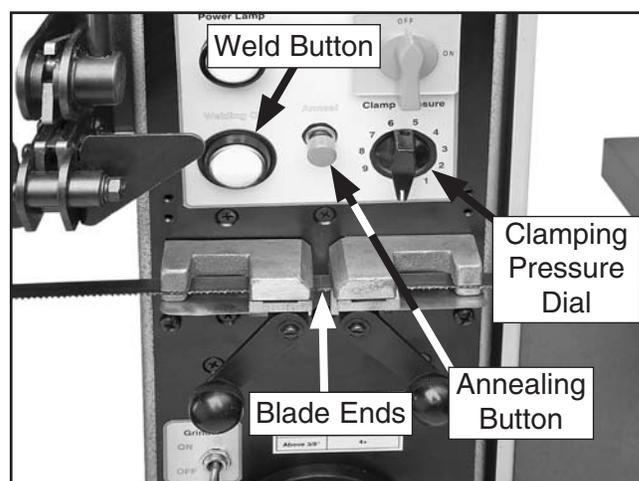

Figure 46. Blade ends in correct position for welding.
5. Set the clamping pressure dial (see **Figure 46**) to "0".
- Place the other blade end in the opposite welding clamp and position it so that the end evenly butts up against the opposing blade end, then lock it in place by rotating that lock lever all the way up, as shown in **Figure 46**.